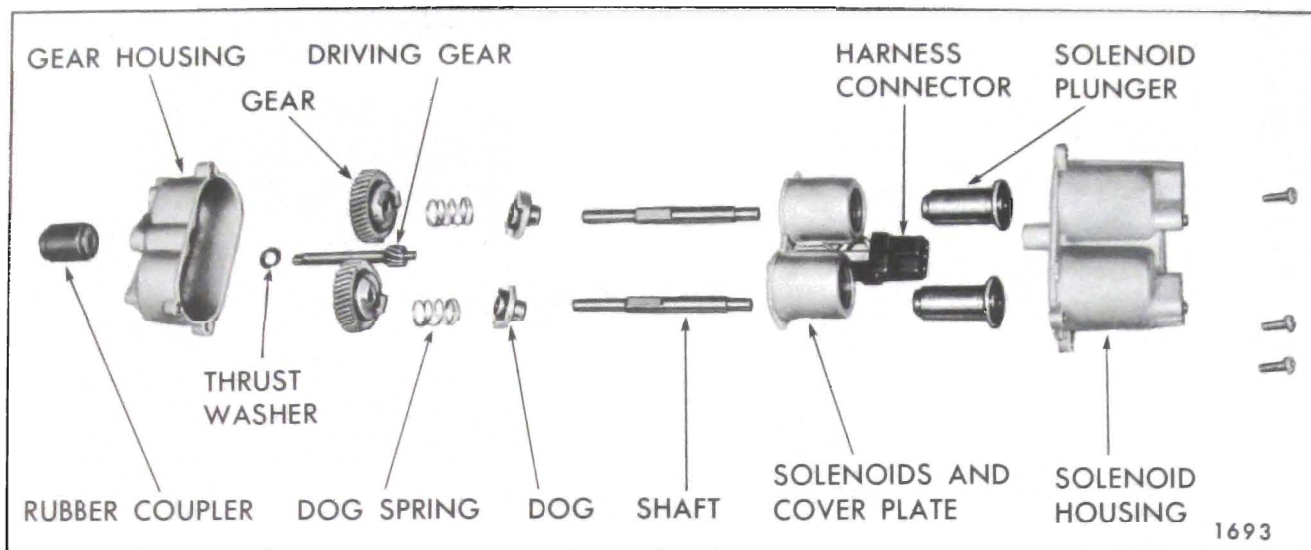

Fig. 15-10 — Four-Way Seat Adjuster Transmission
2. Remove screws securing gear and solenoid housings together: then, carefully separate housings and remove component parts of transmission assembly (Fig. 15-10).
2. Remove screws securing gear and solenoid housings together; then, carefully separate housings and remove component parts of transmission assembly (Fig. 15-10).